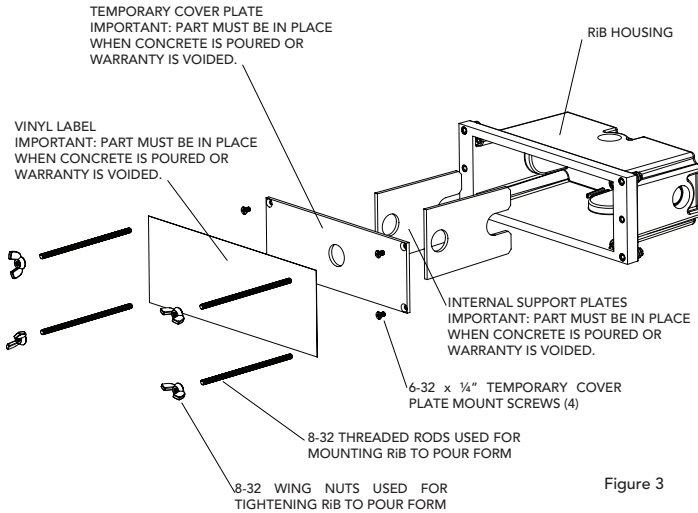
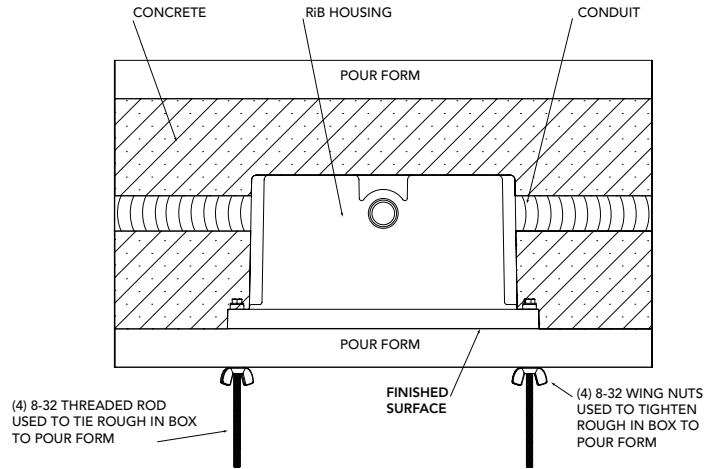

Figure 3
Figure 4
**IMPORTANT NOTE:** Internal supports, temporary cover plate, and vinyl label must remain in place during pouring and curing of concrete (fig. 3).
1. Install (4) threaded 8-32 rods (supplied) into RiB housing by piercing through vinyl label in specified location. Hand tighten until secure.
2. Attach RiB housing to pour form using (4) wing nuts provided so the front face of the RiB housing will be flush with the finished surface (fig. 4).
3. Connect conduit to RiB housing (fig. 4).
4. Pour concrete. NOTE: DO NOT PUMP OR DROP CONCRETE DIRECTLY ON TOP OF THE RiB HOUSING (fig. 4).